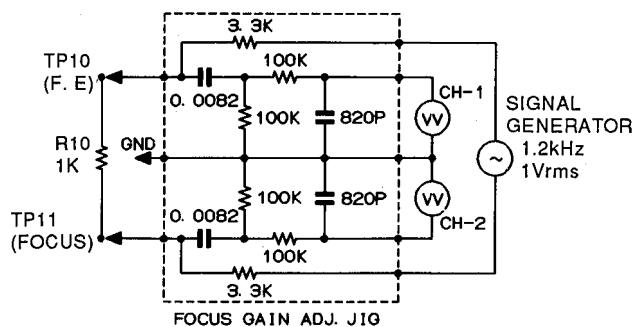

Figure 5-3 FOCUS GAIN
*2: Apply sine wave (Oscillation Frequency: 1.2kHz 1.0Vrms) as shown in Figure 5-3.